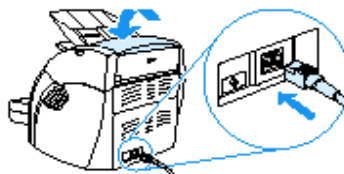

Figure 38. Power Cord
1. Disconnect the printer from the power source and wait for the printer to cool, before cleaning the printer. Figure 38 shows the location of the power cord.